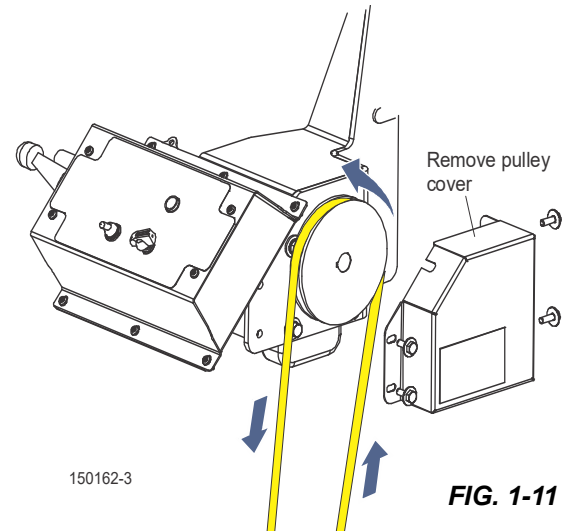

FIG. 1-11
1. Remove the feed rope pulley cover from the power feed control unit. See Fig. 1-11.